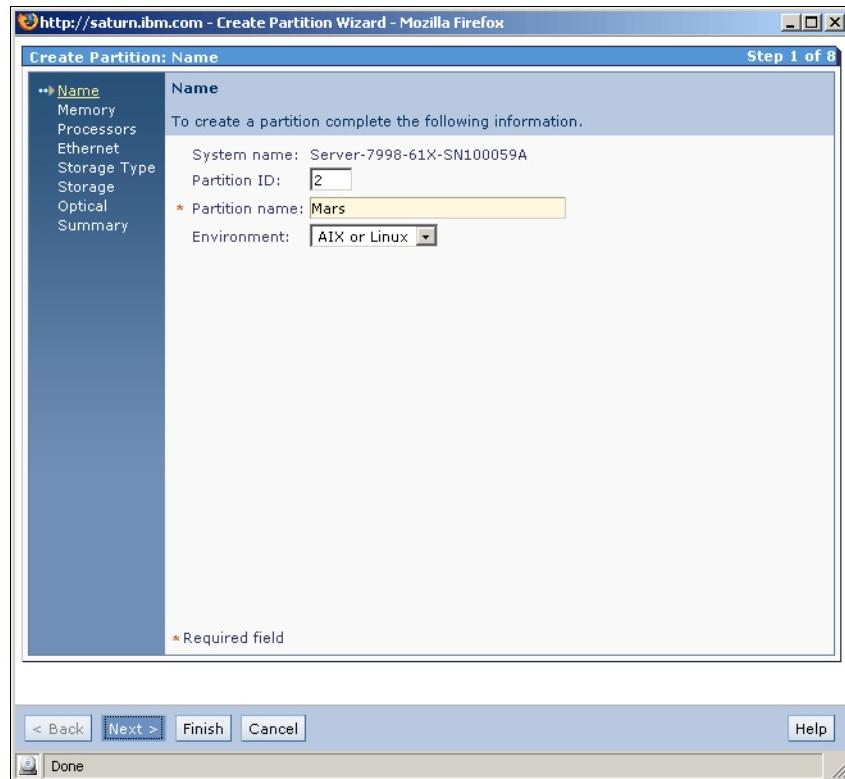

Figure 6-16 Create partition - define name
5. Specify the name and the type of the partition. The name is used to identify the partition, especially when partition mobility is later used. Using a host name might be an option here. In Figure 6-16 we chose the host name as partition name. The type can be either AIX/Linux or i5/OS. Choose the type according to the OS you plan to install. We chose AIX/Linux for this AIX partition. Click **Next** to proceed.